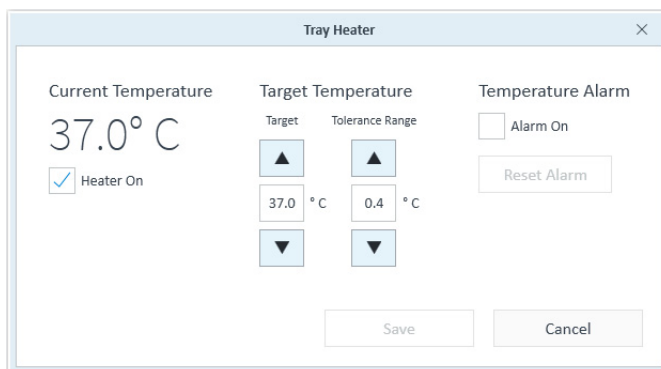

Figure 10 Edit temperature settings (Tray Heater dialog box).
The **Tray Heater** dialog box is displayed. (See **Figure 10**.)
- 1 Select the **Alarm On** check box in the **Tray Temperature** window. (See **Figure 10** on page 29.)